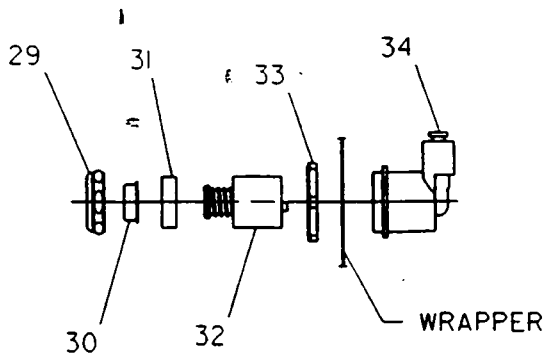

FIG. 3
3. Install wrapper (Item 35) onto unit by first cutting and discarding the nylon tie holding the regulator holder (Item 34) in place. Install regulator assembly in the wrapper by removing Items 29, 30, and 33 (See Fig. 3). Place wrapper in position and push the regulator holder through the hole and reattach Items 29, 30, and 33. Attach wrapper to frame and basin.
SEE FIG. 3